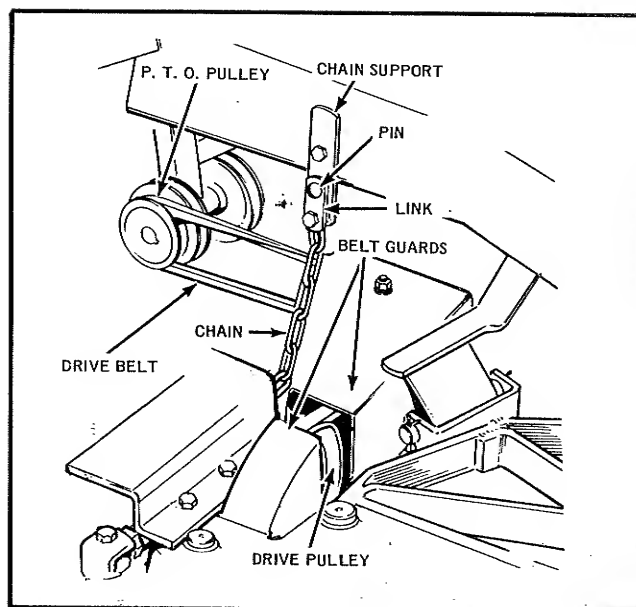

FIGURE 8
3. Attach the chain support to the frame of the tractor as shown in Figure 8, using hex capscrew, lock washer and hex nut furnished. Attach the chain and links to the chain support with a pin and spring clip.